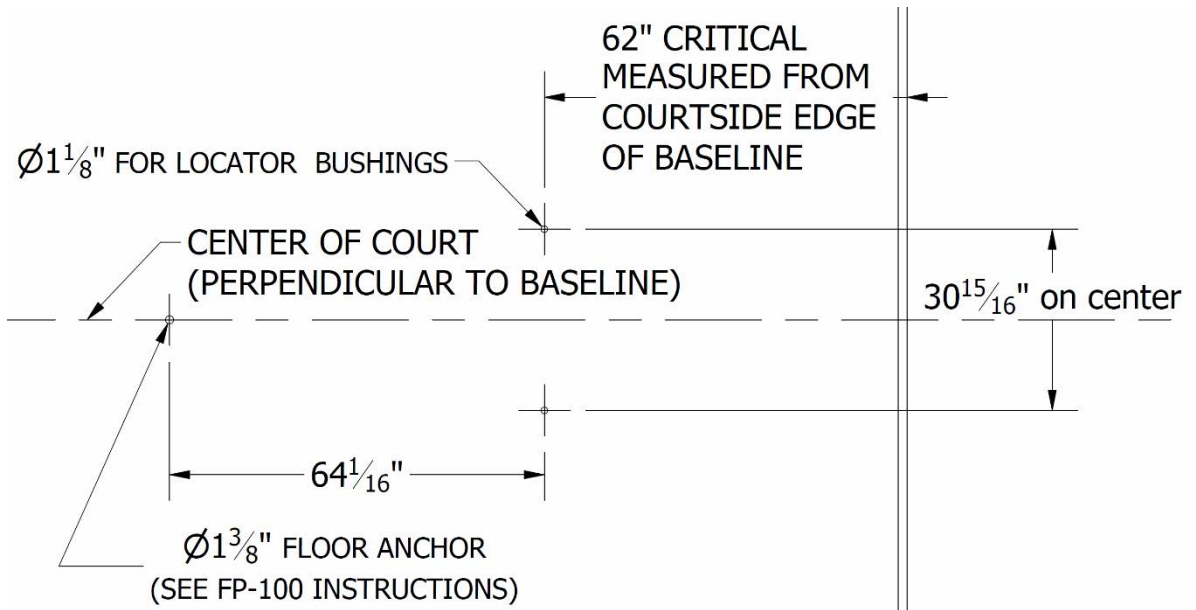

Figure 12-2: PBEL96 Locating and anchor holes locations.
- b. PBEL96 (96" overhang): refer to Figure 12-2